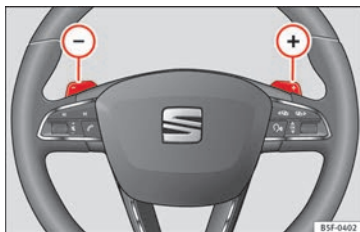

Fig. 170 Steering wheel: automatic gearbox levers
- Press the gearshift paddle  to select a higher gear **»» Fig. 170**.